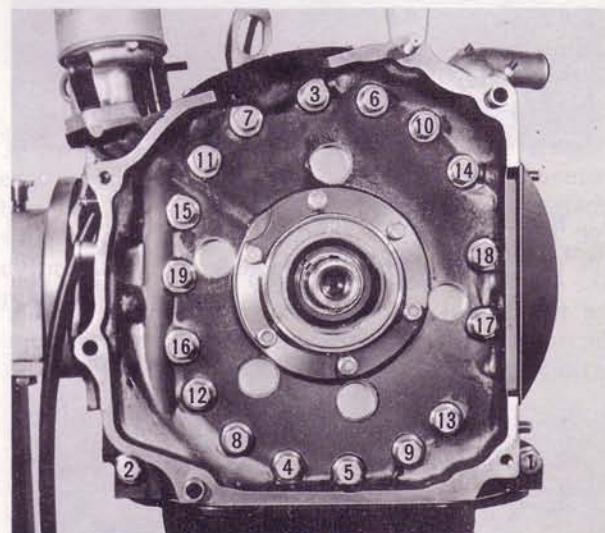

Fig. 1-17 Tension bolts loosening order
33. Loosen the tension bolts in the sequence shown in Fig. 1-17, and remove the tension bolts.